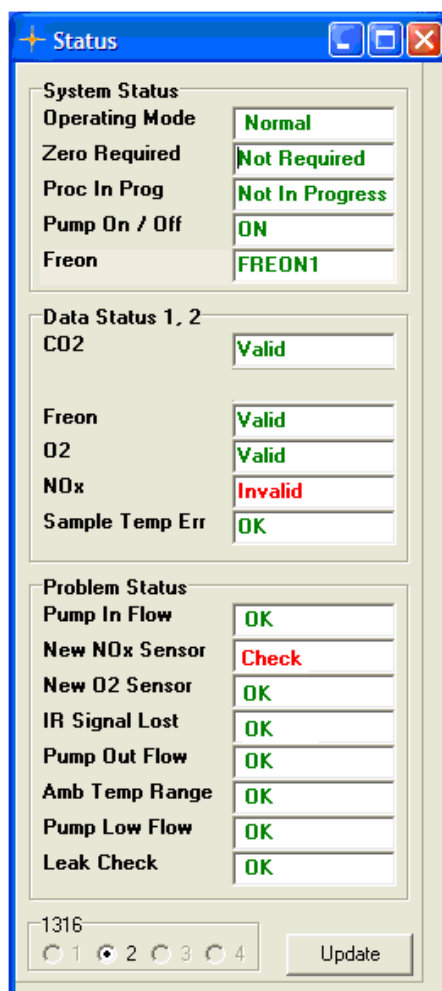

Figure 4.13. The Status window displaying that a new NO sensor is required
- 1) If a New NO Sensor is required see the Status window figure 4.13., install a new NO sensor Order number VM0201A.
If the NO channel is being span calibrated, the current full-scale NO output is calculated and saved. If the current full-scale NO output is less than or equal to a preset value (The Low NO Sensor Limit) the New NO Sensor Required is shown in the Status window, see figure 4.13.